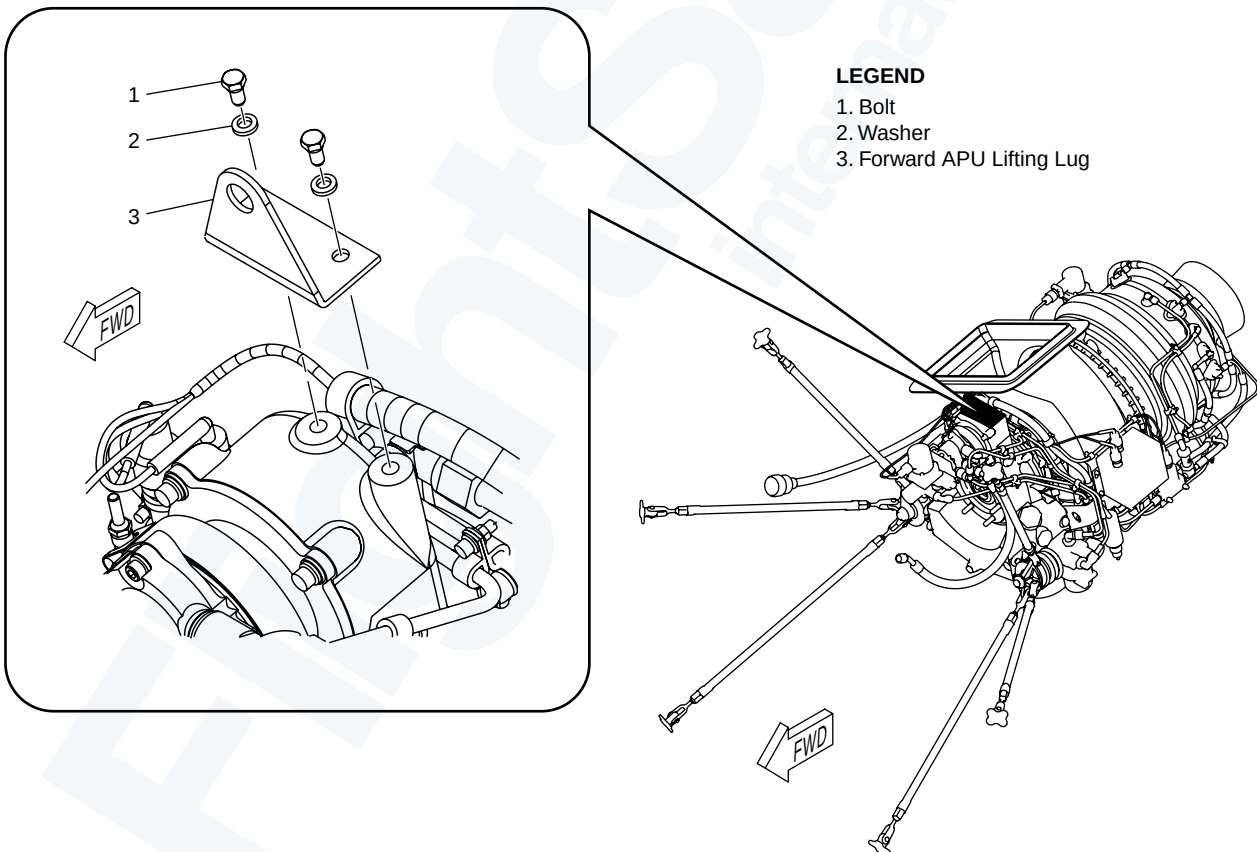

Figure 49-16. APU Engine Assembly - Removal/Installation (1 of 2)
- Figure 49-16. APU Engine Assembly - Removal/Installation (1 of 2).